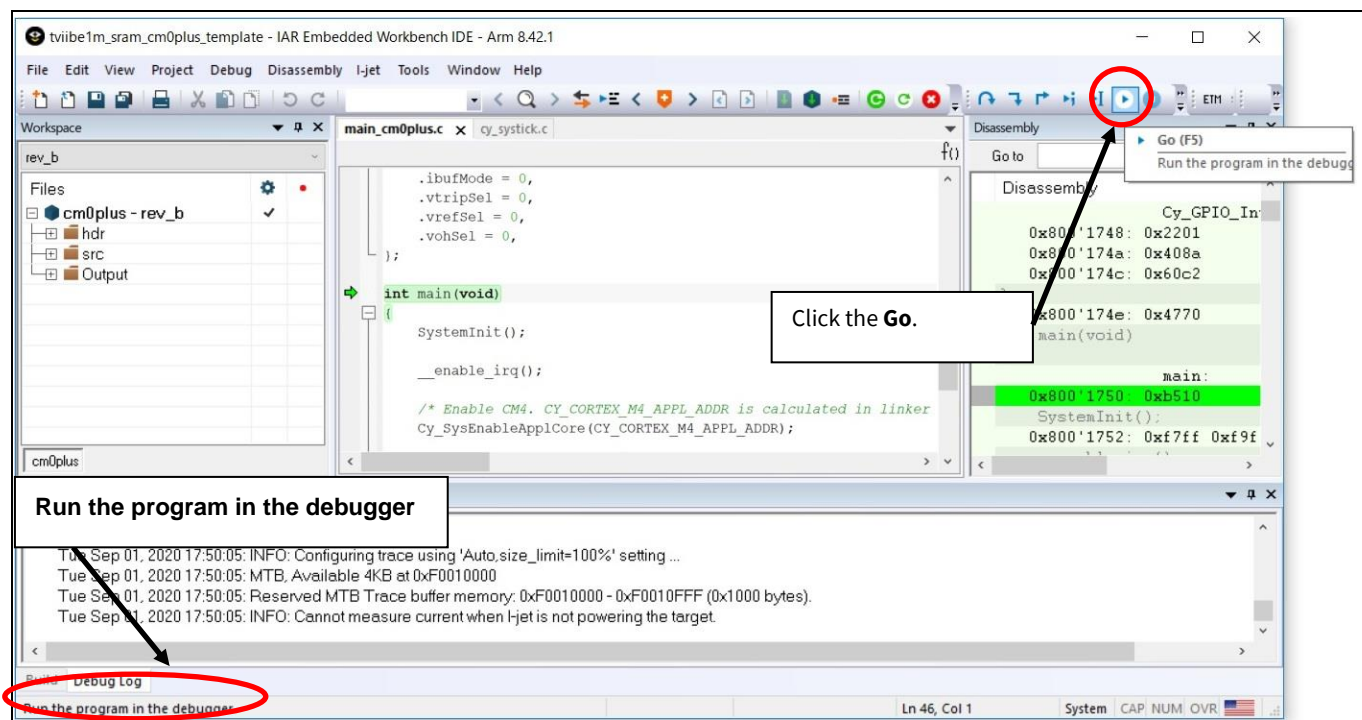

Figure 24 Execution on RAM
- Click the **Go** icon as shown in **Figure 24**.